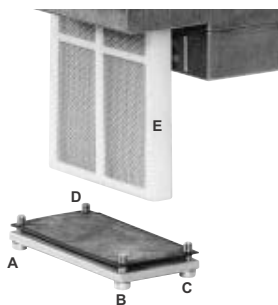

Fig. 40
- 2 Remove screws 1 ÷ 6 (Fig. 40).